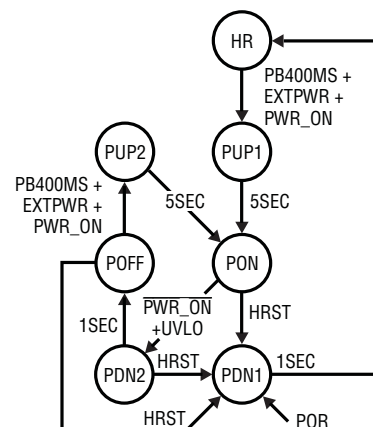

Figure 18. Pushbutton State Diagram
Figure 18 shows the LTC3577 pushbutton state diagram. Upon first application of power ( $V_{\text{BUS}}$ , WALL or BAT) an internal power-on reset (POR) signal places the pushbutton circuitry into the power-down (PDN1) state. One second after entering the PDN1 state the pushbutton circuitry will transition into the hard reset (HR) state. The following events cause the state machine to transition out of HR into the power-up (PUP1) state: